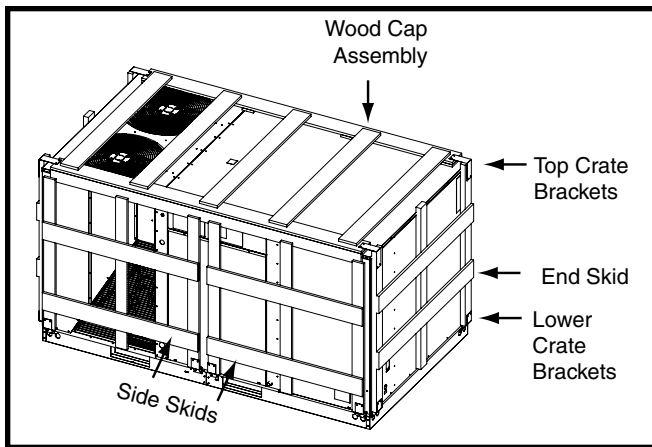

Figure 3. Side View
1. Remove top crate brackets and wooden cap assembly from top of unit. See Figure 3 (page 5).